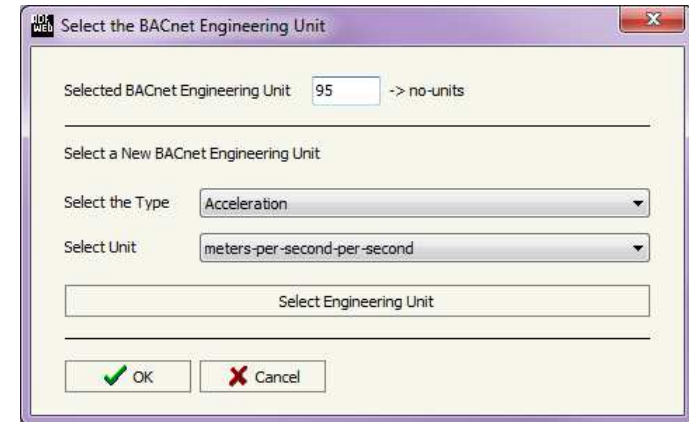

Figure 7: "Select the BACnet Engineering Unit" window
- In the field **"Eng. Unit"**, with double click the window *"Select the BACnet Engineering Unit"* appears (Fig. 7);